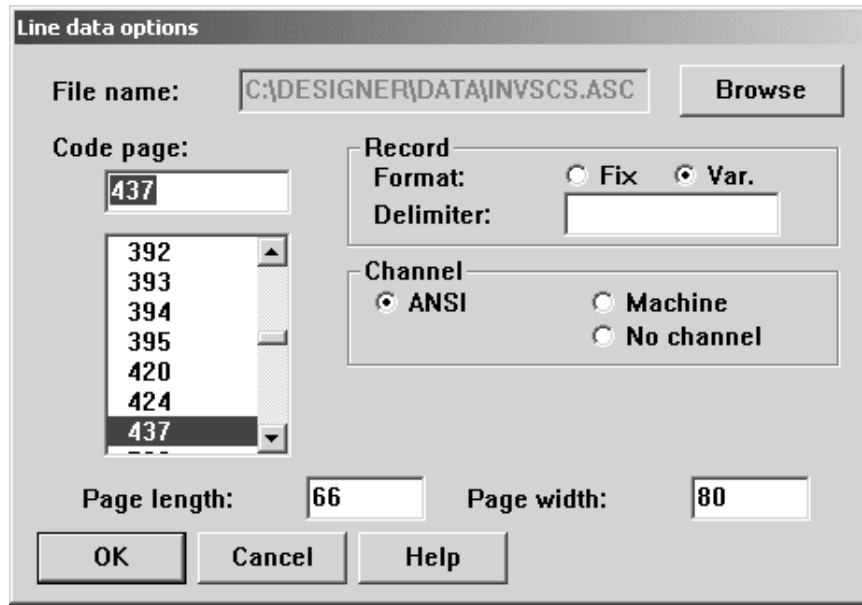

Figure 6. Line data options dialog
2. The **Line data options** dialog opens, as shown in Figure 6 on page 33. Make any changes as necessary and select **OK**.